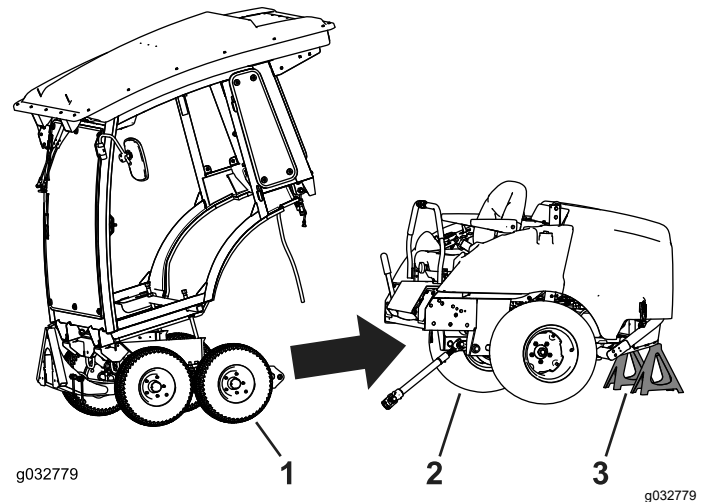

Figure 68
1. Align the winter frame into the machine frame and roll it back (Figure 68).
3. Use jack stands to support the machine (Figure 68).